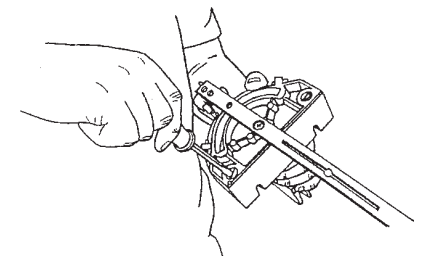

Figure C-49
- b. Use a medium screwdriver to screw the glides in or out, as shown in Figure C-49, so that the glides hold the miter gauge 1/64" to 1/32" off the worktable and the miter gauge does not rock in the slots.